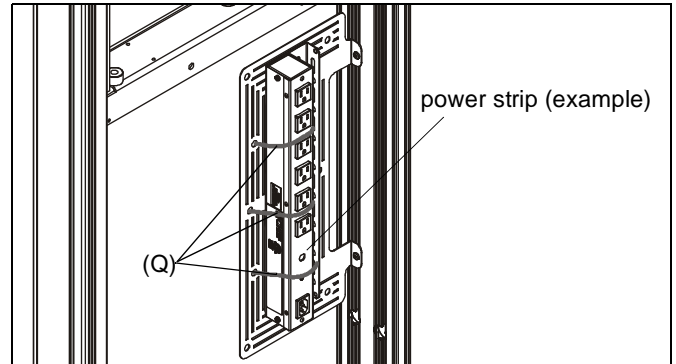

Figure 10
5. Install components to component bracket as desired using cable ties (Q), cable clips (U) or screws. (See Figure 10)